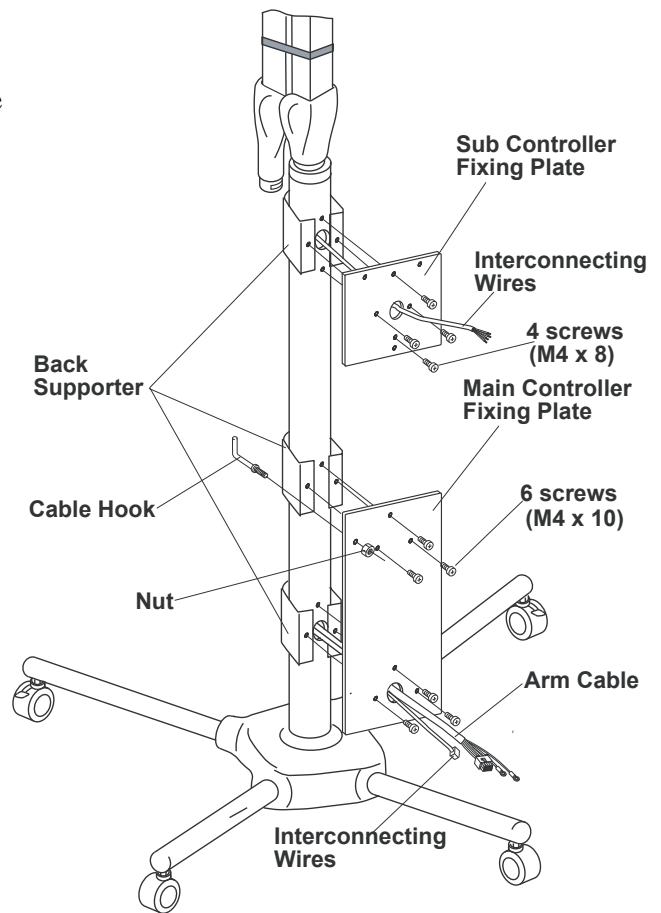

Fig.3-11 Controller Fixing Plates Installation
C. MAIN CONTROLLER FIXING PLATE AND SUB CONTROLLER PLATE INSTALLATION (**Fig.3-11**)